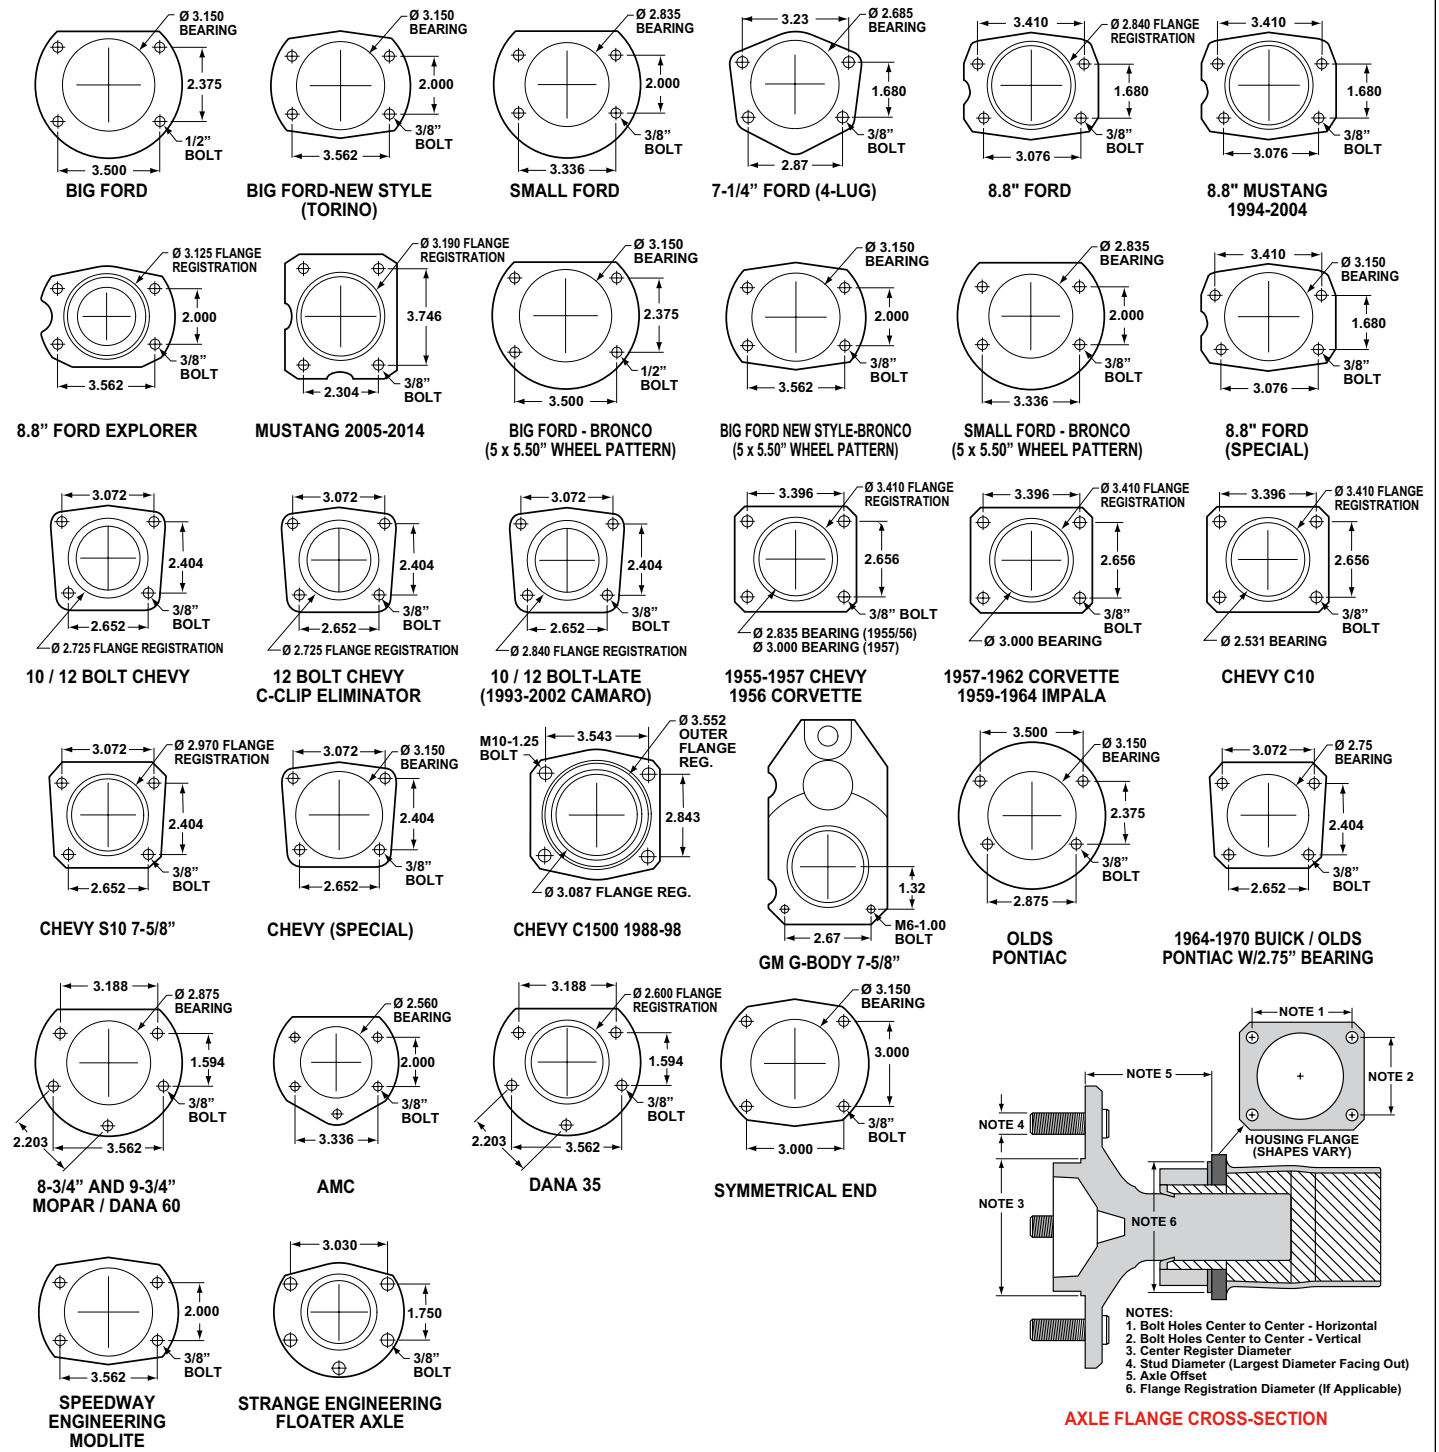

Figure 6. Rear Housing Flange Chart and Axle Flange / Offset Cross-Section
- Make sure this is the correct kit to fit your axle housing flange and axle offset. Multiple rear axle assemblies were available on 1966-77 Ford Broncos. Using Figure 6, check that your rear axle matches the description on page 1 of these instructions (i.e. Big Bearing Ford, 2.00 Offset).
- Bearing outside diameter, Figure 6.
- Dimension from wheel side of axle flange to wheel side of axle housing flange (see Figure 6, lower right hand corner). This dimension is critical to ensure proper alignment of the rotor to the caliper, and should match offset given in the kit description.